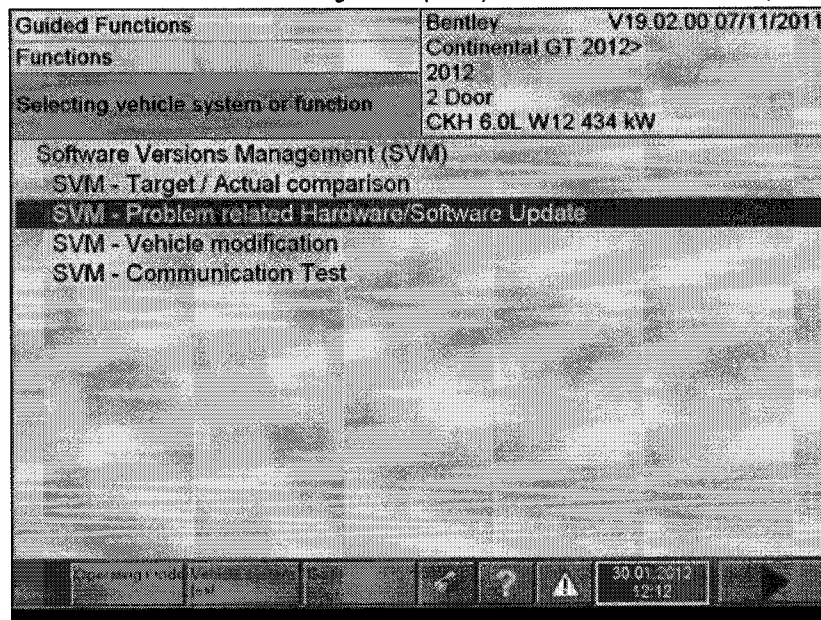

Figure 14
14. Select *SVM - Problem related Hardware/Software Update* (see Figure 14)